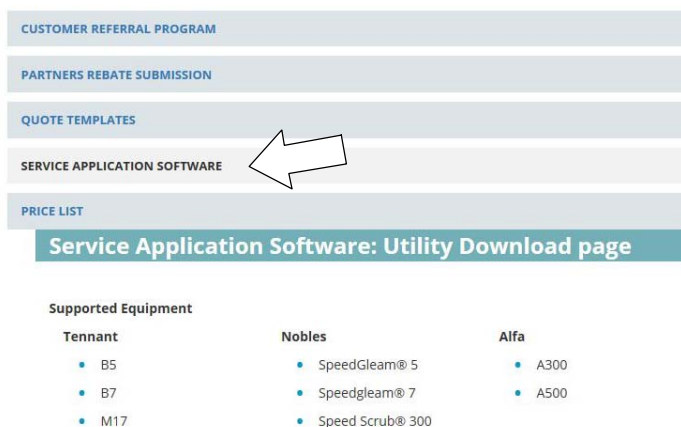

Fig. 17
3. Click on the “SERVICE APPLICATION SOFTWARE” link as shown below (Figure 17).